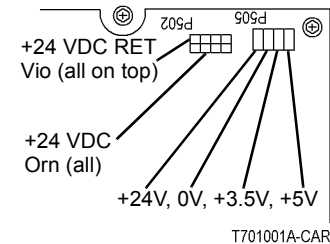

Figure 1 P502, P505 on +24V LVPS
- i Disconnect P502 on +24V LVPS (Figure 1).
Connect the black meter lead to DC COM or frame. Measure DC voltage at P505 on the +24 V LVPS (Figure 1). **Voltages are measured as shown.**
Measure the DC voltage at P502 on the +24V LVPS (Figure 1). **Voltages are measured as shown.**